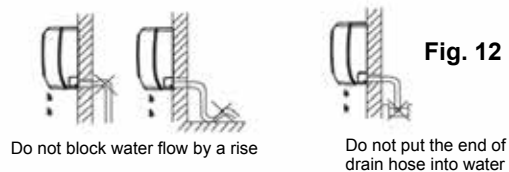

Fig. 12
- A. Run the drain hose sloping downward. Do not trap the drain hose. Do not install the drain hose as illustrated in Fig. 12.